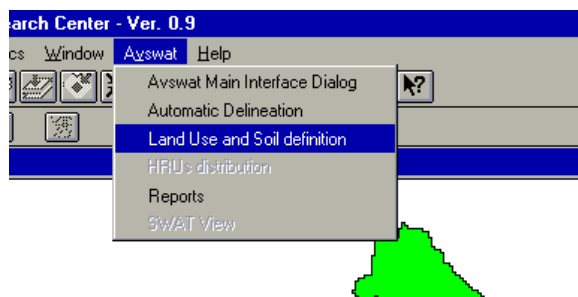

Figure 15.27
1. Select **Land Use and Soil Definition** in the **Avswat** menu (Figure 15.27).